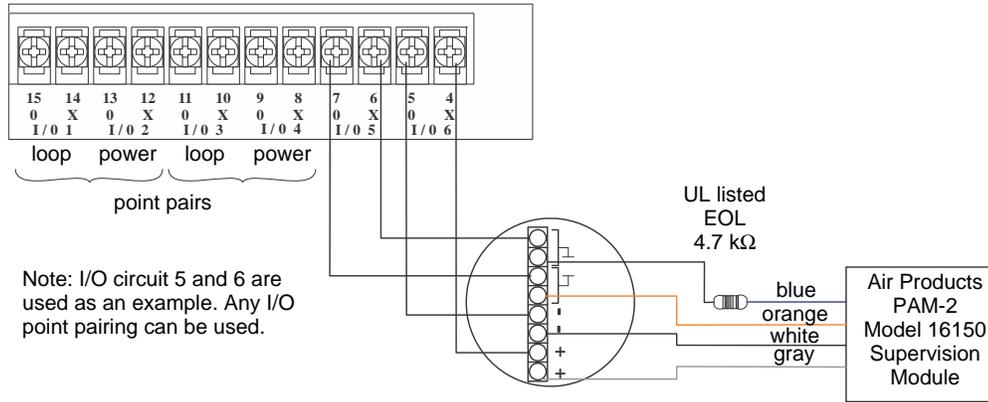
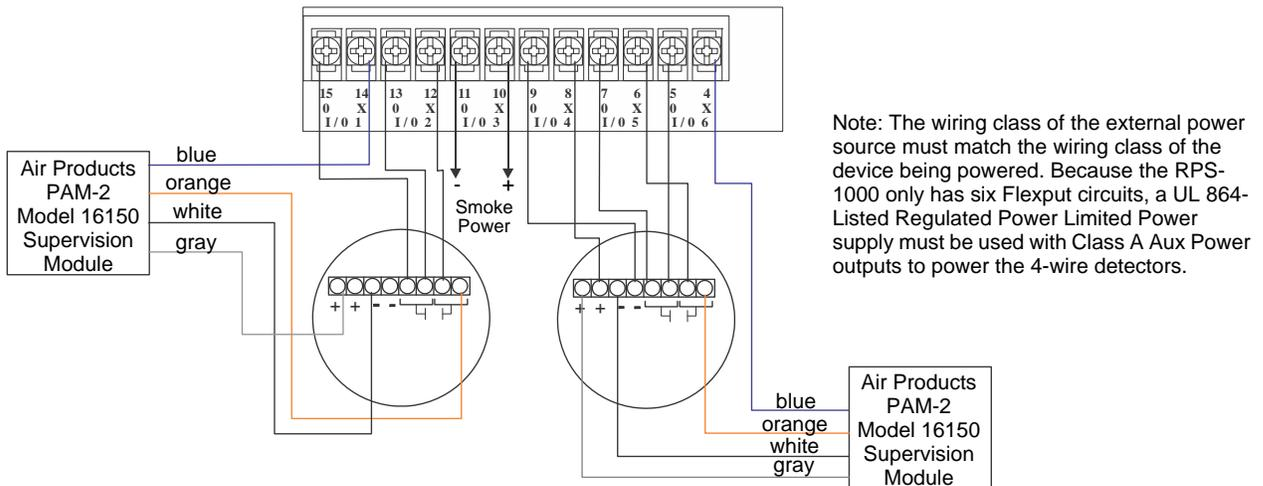

Figure 3.16 Class B 4-Wire Smoke Detector Connections
Figure 3.17 Class A 4-Wire Smoke Detector Connections
Any compatible UL listed two-wire smoke detector can be used with the RPS-1000 panel. Refer to the *Device Compatibility Document* for a list of compatible devices. Figure 3.16 and Figure 3.17 illustrate how to connect a UL listed four-wire detector to the RPS-1000 panel.
Figure 3.16 illustrates how to install Class B 4-wire smoke detectors.
2. Each Class B loop input is paired with a unique power source as shown in Figure 3.16.
NOTE: In programming, any point that uses multiple I/O circuits are always referred to as the lowest I/O circuit number used. For example, Figure 3.16 uses both I/O circuit 5 and 6, so in programming it would be referred to as point 5.
Figure 3.17 illustrates how to install Class A 4-wire detectors.
2. Smoke power is supplied to each Class A loop as shown in Figure 3.17.
NOTE: In programming, any point that uses multiple I/O circuits are always referred to as the lowest I/O circuit number used. For example, since Figure 3.17 uses I/O circuits 1, 2, 3 together and 4, 5, 6 together they would be referred to as point 1 and point 4.